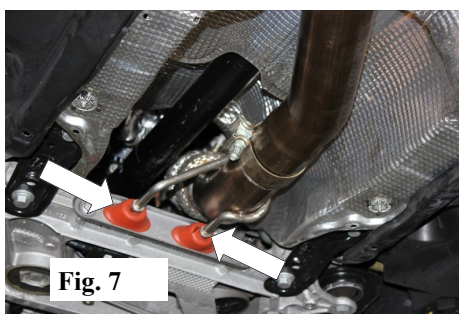

Fig. 7
3. Place a clamp over the expanded end at the front of the **Front Pipe Assembly** and insert to outlet of **Down Pipe Assembly** inserting hangers into rubber isolator. Secure the hanger support using the original hardware. DO NOT TIGHTEN HARDWARE. (See Fig. 7)